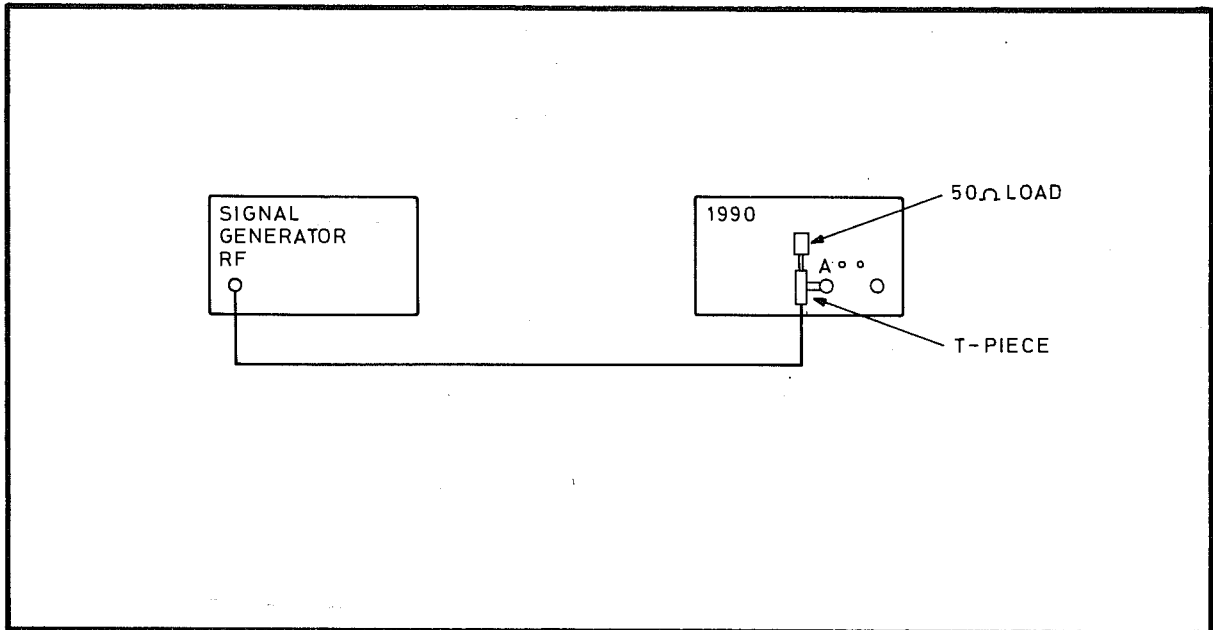

Fig 7.22 Connections for Filter PVP
60 (1) Ensure that the channel A trigger level control is switched to 0 V. Connect the test equipment as shown in Fig 7.22.